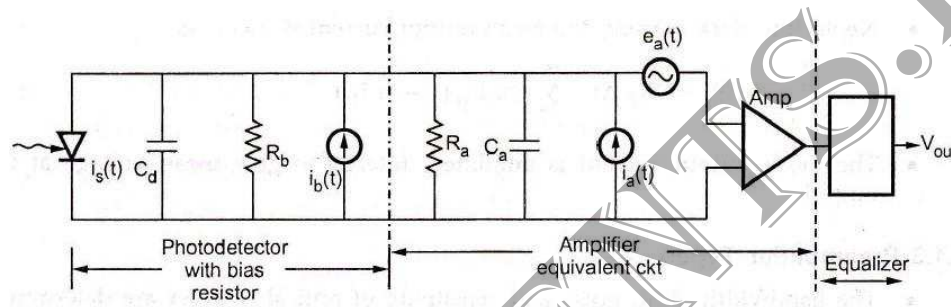

Fig. 5.1.3 High - input impedance preamplifier
- x The high impedance amplifier uses FET or a BJT. As the high impedance circuit has large RC time constant, the bandwidth is reduced. Fig. 5.1.3 shows equivalent circuit of high input impedance pre-amplifier.